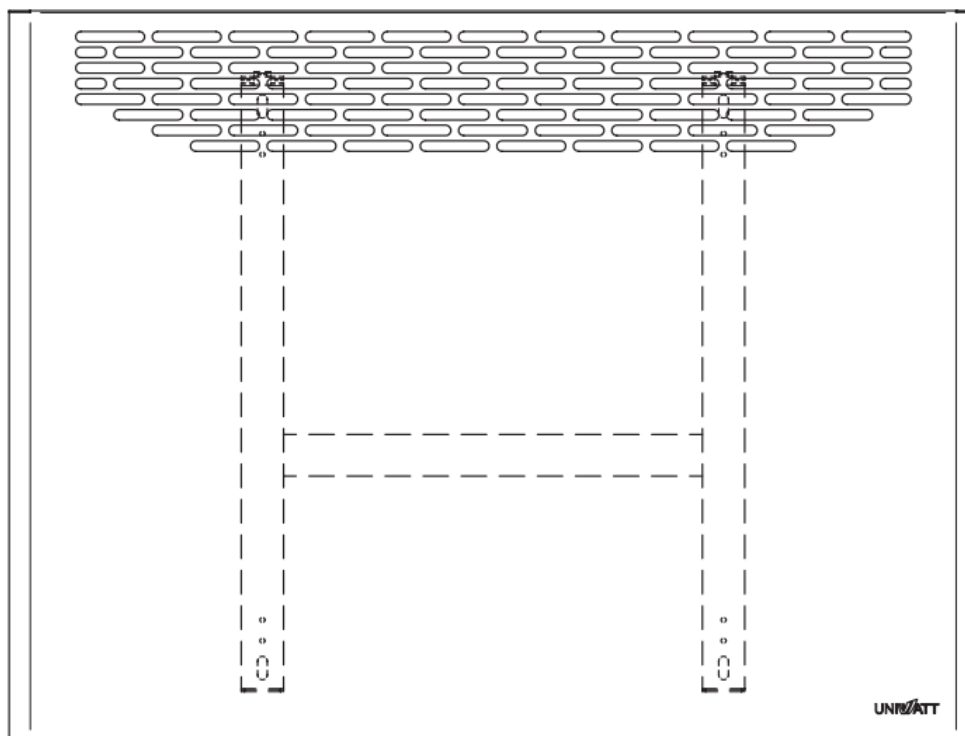

FIG. 6
4. The unit must be mounted at least 4 inches (10.2 cm) from the floor. **(FIG. 6)**